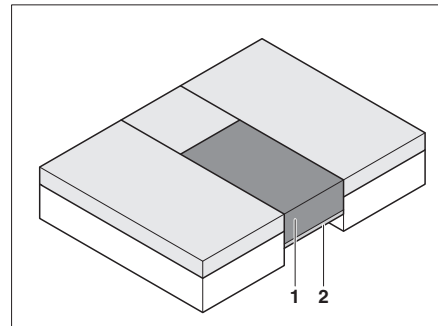

Fig. 76 After conversion
- Place the additional cushion (Fig. 76,1) on the extended slatted frame (Fig. 76,2).
Firmly press down to position the extra cushion (Fig. 76,1) at the same height as the other cushions.
- ▷ Insert and sit on the extra cushion (Fig. 76,1).